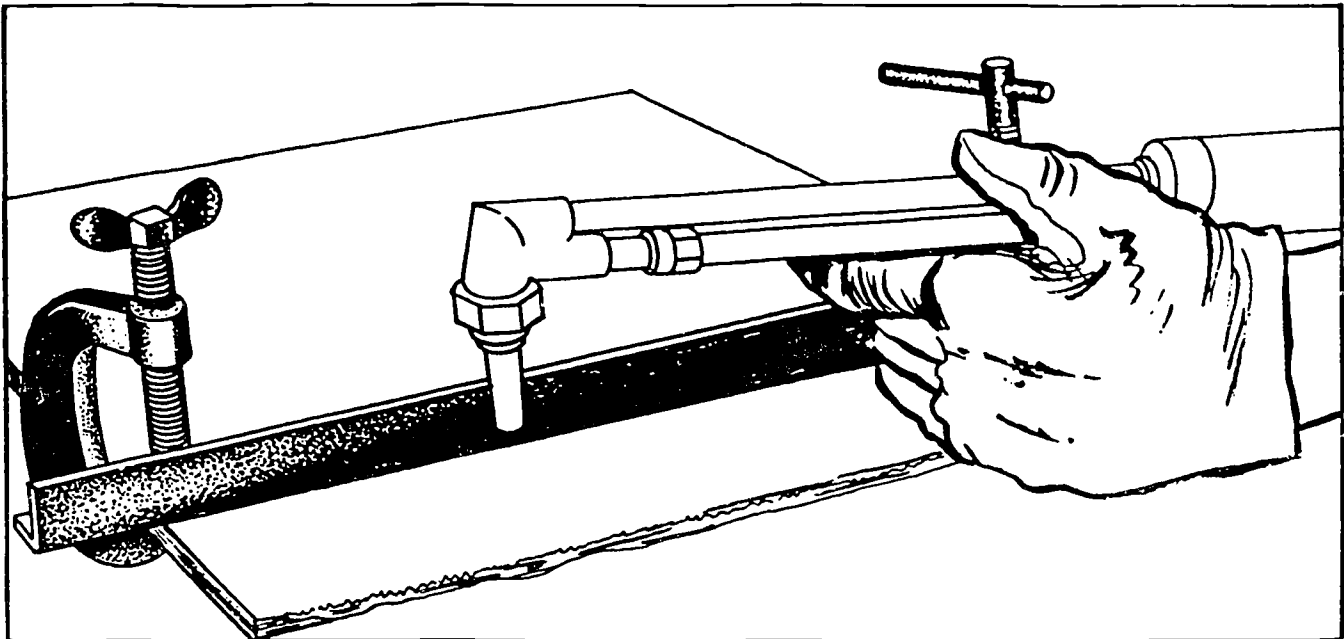

Figure 5-11. Straight line cutting.
**Straight Line Cutting.** To perform straight line cutting mark the line of cut clearly with a center punch or clamp a guide bar into position to guide the torch accurately, as shown in figure 5-11. The latter method is preferred for a cut of any considerable length.